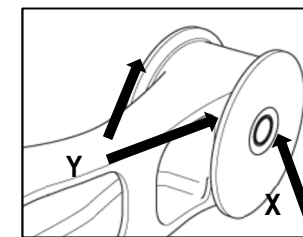

Fig. 20
9. Insert steel inner sleeve "X" into the pivot bush central tube. Fit the replacement wear washers "Y" to either side of the pivot bush (Fig. 20).